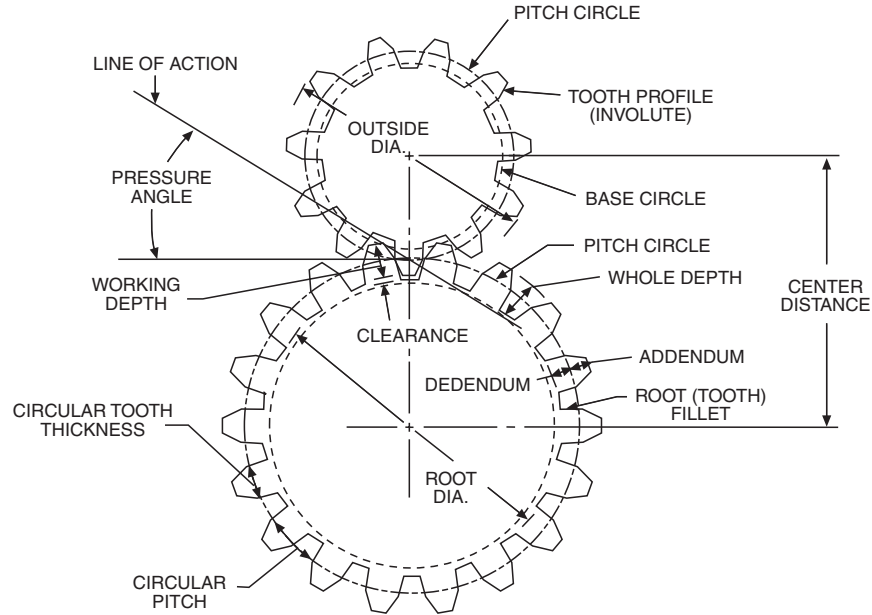
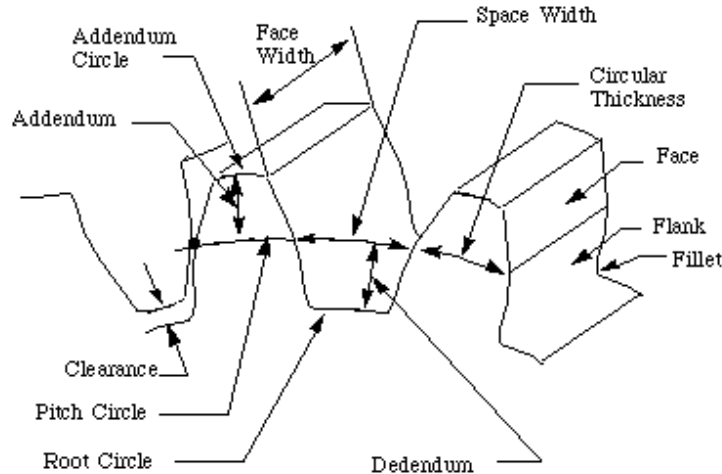

Figure 1: View of two meshed gears [3] showing main terminology and the *line of action* along which the contact point travels.
Figure 2: detail of gear teeth
Figure 1 shows the teeth of two engaged gears and Figure 2 shows a detail of spur gear teeth, illustrating the main features. The most important of these features for specifying gears are in the **Gear Nomenclature** below.
- b = *face width* (Fig. 2), equal to gear thickness for spur gears.
- ϕ = *pressure angle* of the line of action (Fig. 1), often 22° in modern gears.
- r_p = *pitch radius*, of the pitch circle (Fig. 1) and the working radius of the gear (1/2 the pitch diameter).